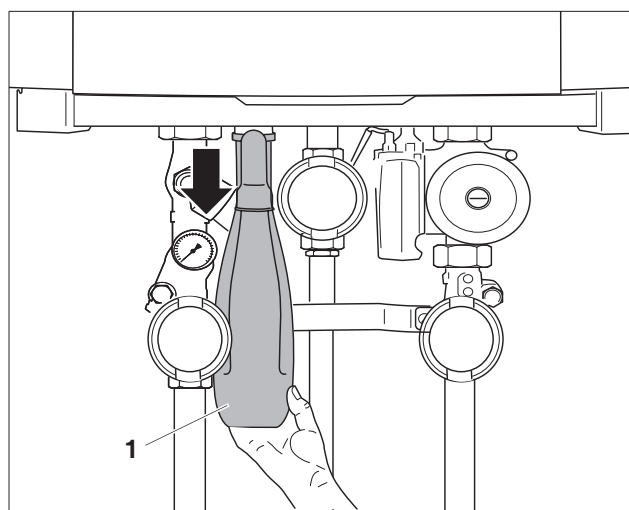

fig. 128 Disconnecting the condensate trap in the pump group
- Disconnect the condensate trap from the coupling and remove it (fig. 128, **item 1**).